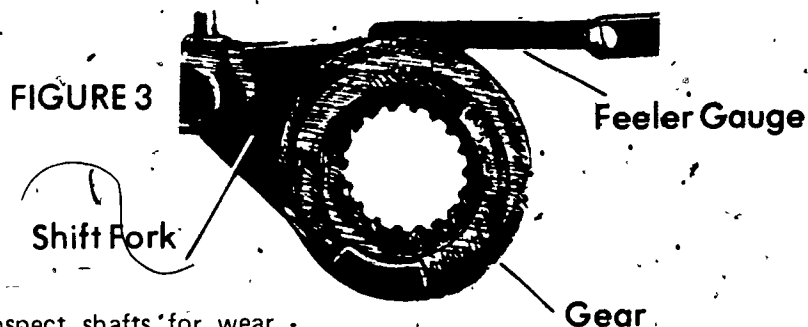

FIGURE 3
- E. Measure clearance between shift fork and gear groove (Figure 3)